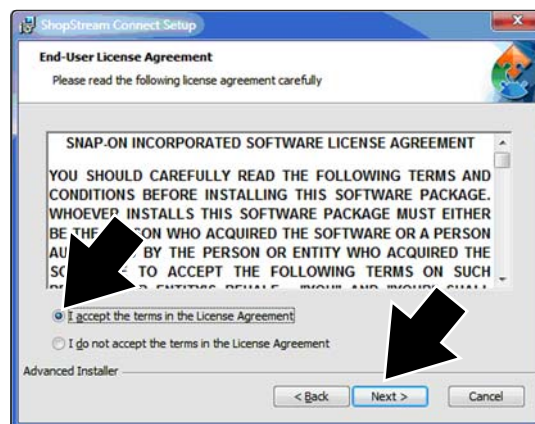

Figure 4-3 Typical License Agreement screen
- c. Select **Next** to continue (Figure 4-3).